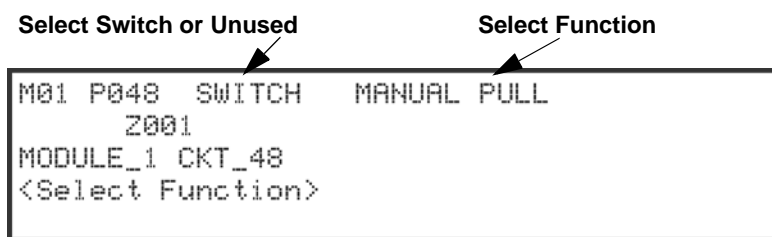

Figure 9-5 Programming Points as Inputs for the 5880 Module
10. To use 5880 as Input point, Enter point number 41 - 48. (See Figure 9-5 on page 17). Then press ENTER.